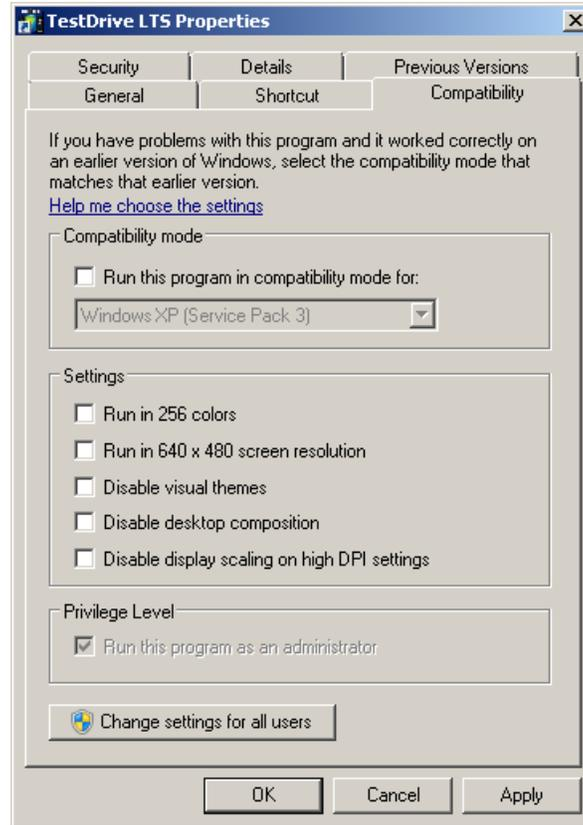

Figure 6-3: TestDrive LTS Properties – Compatibility Tab
2. Under the *Compatibility* tab, shown in Figure 6-3, enable the **Run this program as an administrator** option.